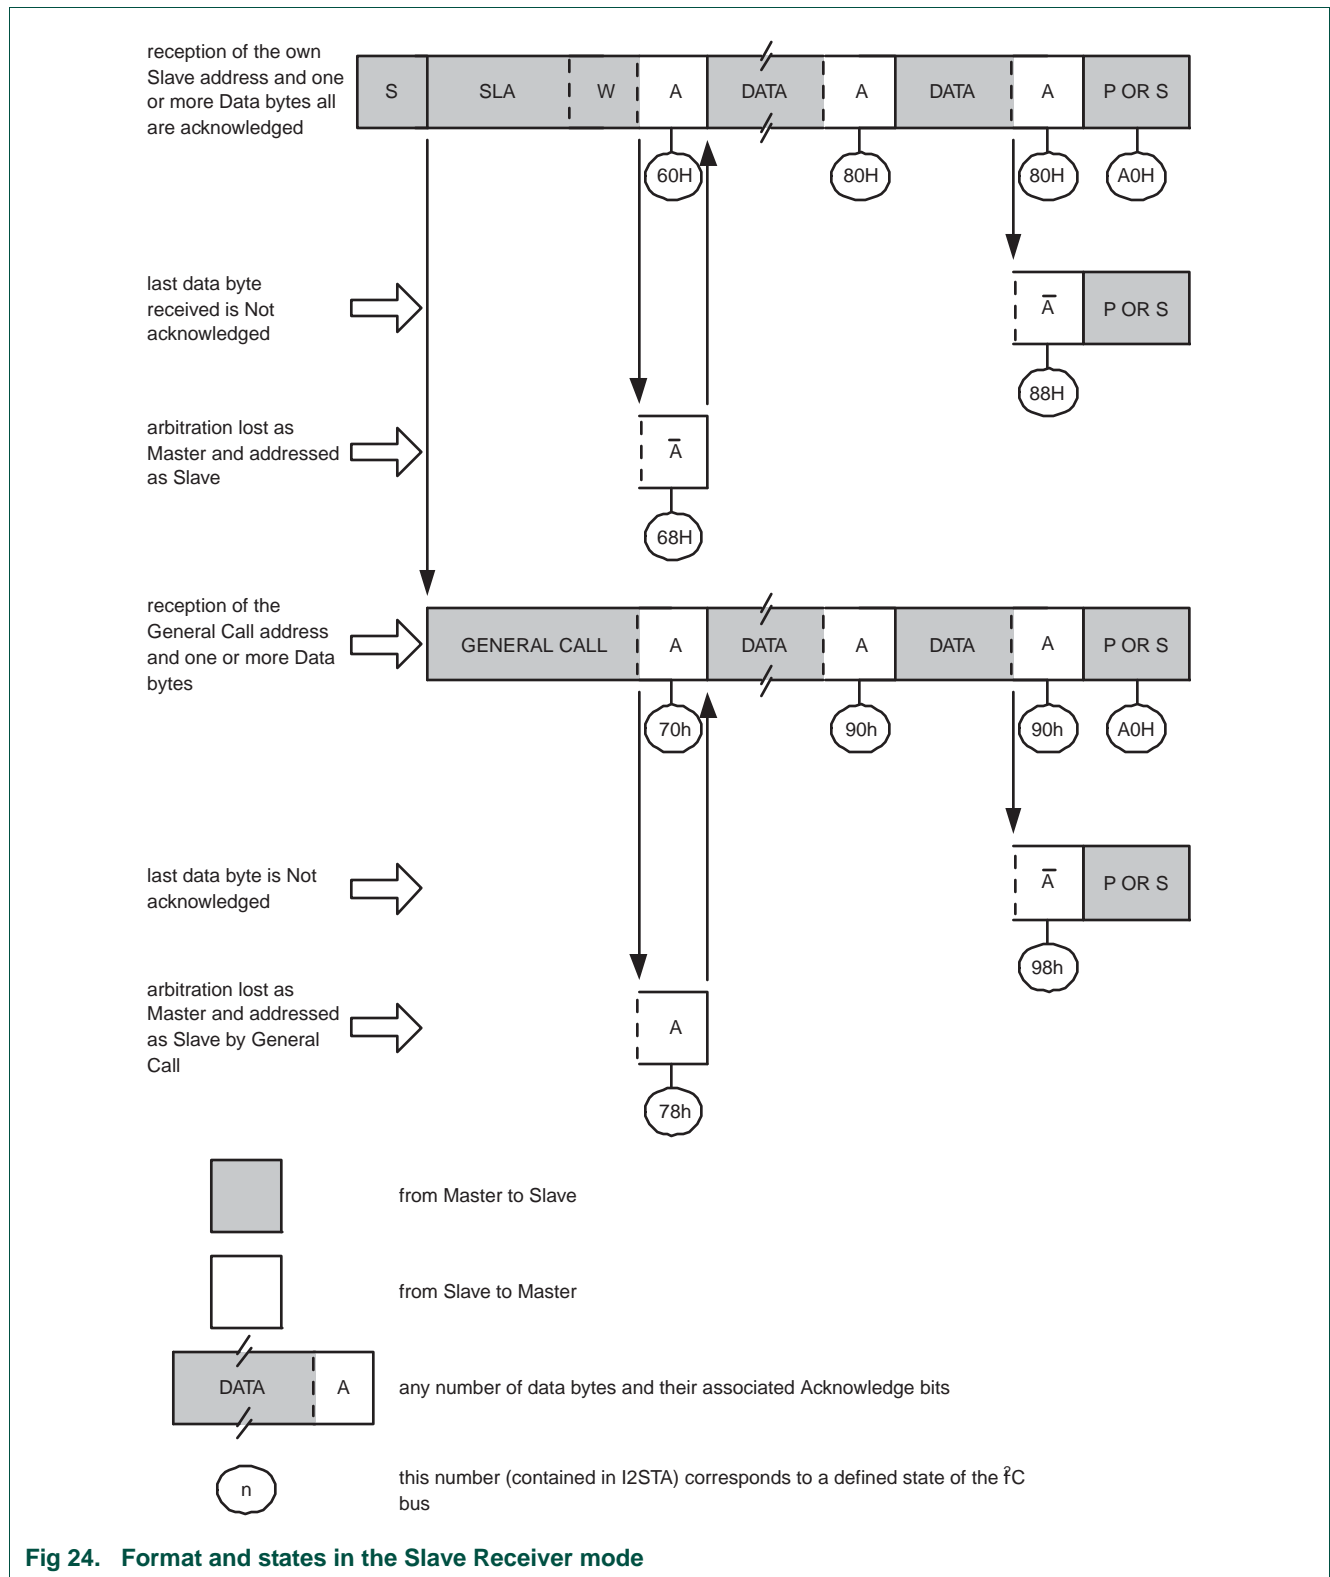
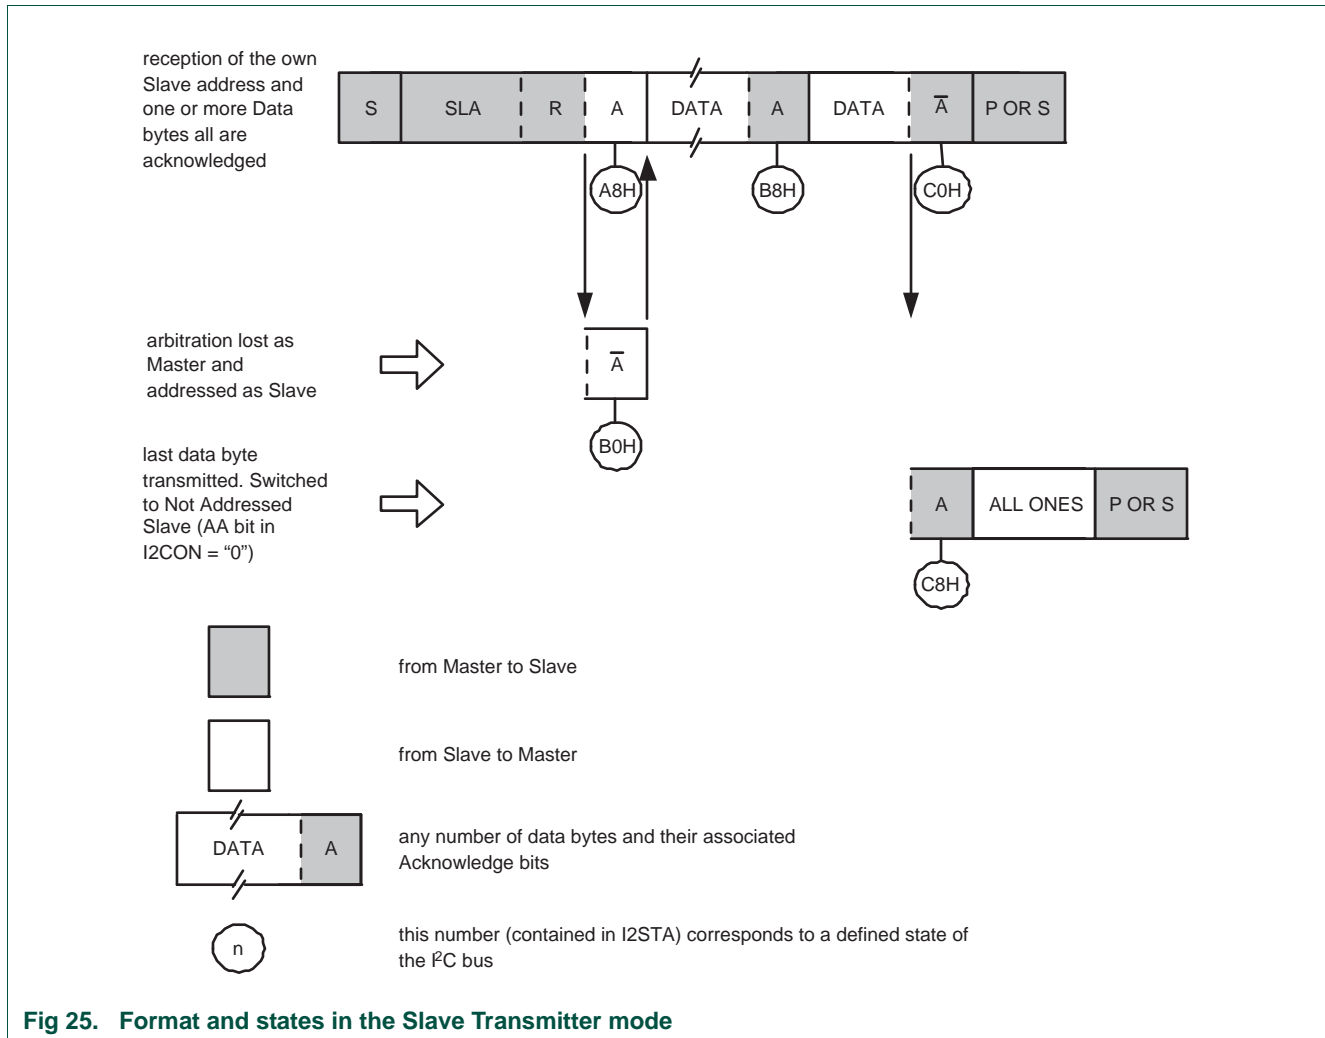

Fig 24. Format and states in the Slave Receiver mode
Fig 25. Format and states in the Slave Transmitter mode
Data transfers in each mode of operation are shown in Figure 22, Figure 23, Figure 24, Figure 25, and Figure 26. Table 197 lists abbreviations used in these figures when describing the I2C operating modes.
In the slave receiver mode, a number of data bytes are received from a master transmitter (see Figure 24). To initiate the slave receiver mode, CON register, the ADR registers, and the MASK registers must be configured.
In the slave transmitter mode, a number of data bytes are transmitted to a master receiver (see Figure 25). Data transfer is initialized as in the slave receiver mode. When ADR and CON have been initialized, the I2C block waits until it is addressed by its own slave address followed by the data direction bit which must be “1” (R) for the I2C block to operate in the slave transmitter mode. After its own slave address and the R bit have been received, the serial interrupt flag (SI) is set and a valid status code can be read from STAT. This status code is used to vector to a state service routine, and the appropriate action to be taken for each of these status codes is detailed in Table 203. The slave transmitter mode may also be entered if arbitration is lost while the I2C block is in the master mode (see state 0xB0).